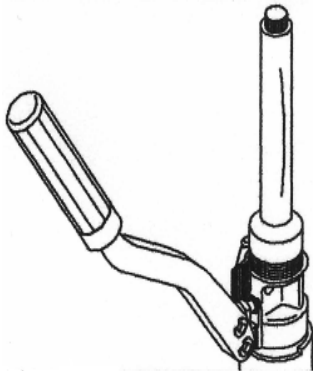

Figure 86. HD51 Oil Reservoir Filler Plug
c. Unscrew reservoir cover and remove filler plug, fill with oil (Figure 86).